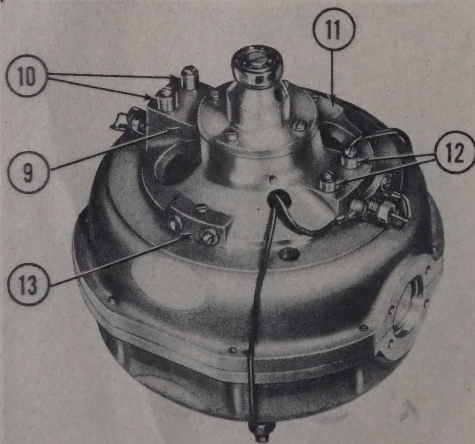

Figure 158 — Location of Balancing Screws and Weights on Rotor Case
Do not remove any of the balance screws or weights indicated in figures 158, 159, 160, 188 in disassembly. These weights and screws serve only to give proper static balance, as explained in this section, paragraph 2, c, (22), (23), and (25). Their removal in overhauling the gyro will only make static balancing more difficult.